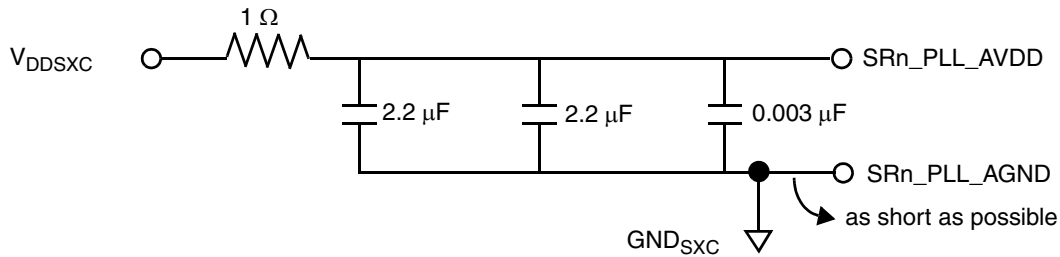

Figure 38. SerDes PLL Supplies
- Couple inputs SR1_PLL_AVDD and SR2_PLL_AVDD with SXCVDD1 and SXCVDD2 power rails, respectively, using an RC filter (see Figure 38).
Each SerDes PLL power supply must be filtered using a circuit similar to the one shown in Figure 38, to ensure stability of the internal clock. For maximum effectiveness, the filter circuit should be placed as closely as possible to the SRn_PLL_AVDD ball to ensure it filters out as much noise as possible. The ground connection should be near the SRn_PLL_AVDD ball. The $0.003 \mu\text{F}$ capacitor is closest to the ball, followed by the two $2.2 \mu\text{F}$ capacitors, and finally the 1Ω resistor to the board supply plane. The